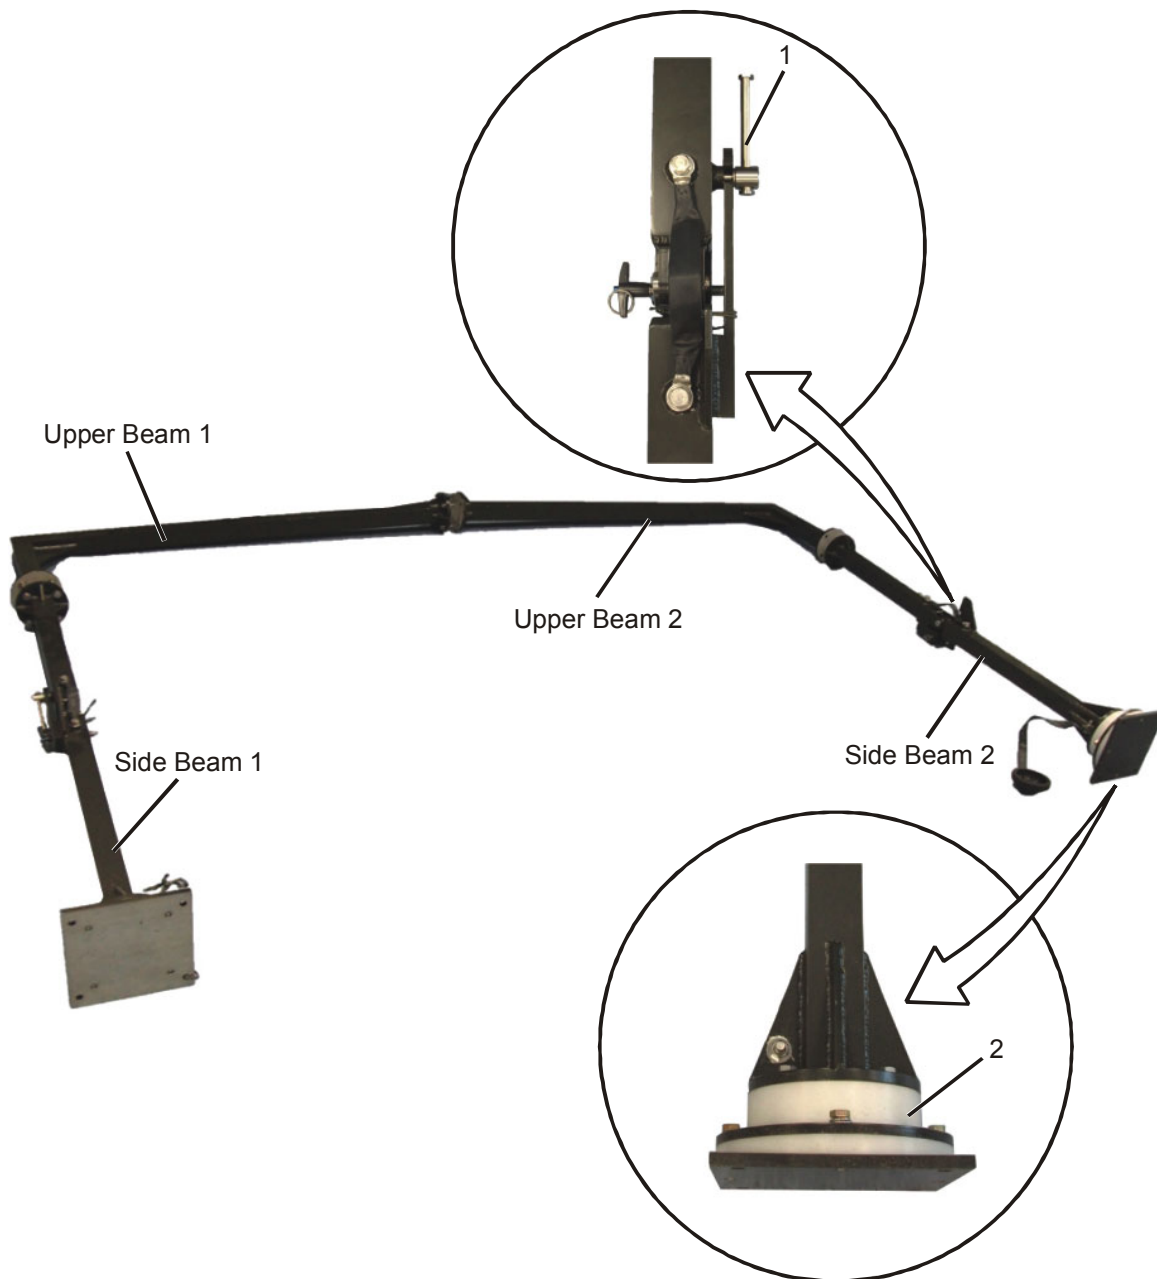
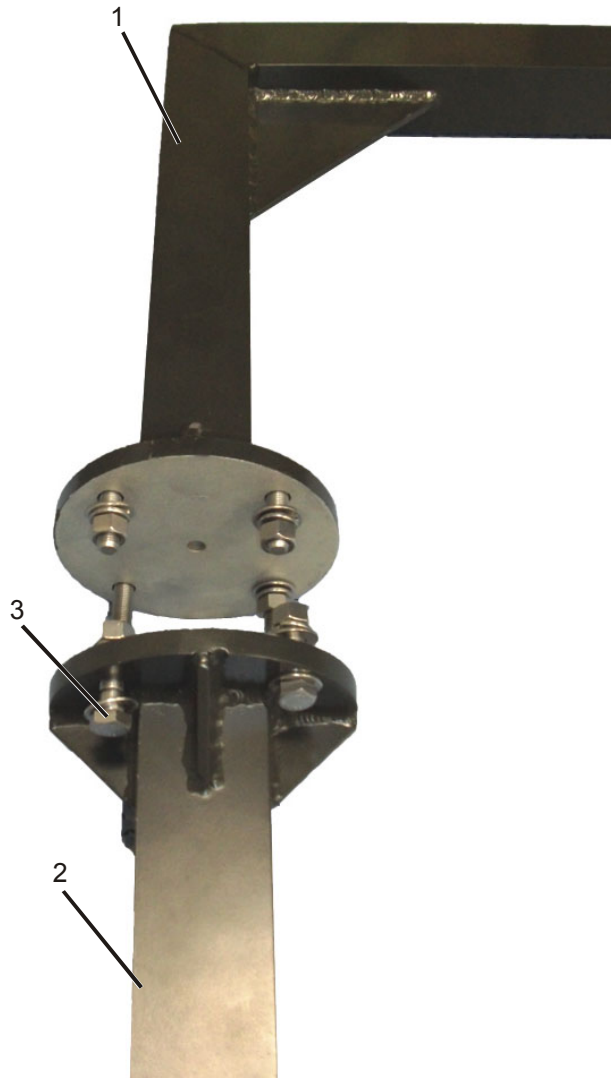

Figure 2-14. Antenna Beam deployment
Figure 2-16. Side Beam Connection
2.3.2.3 Antenna Connection (See Figure 2-14 to Figure 2-16)
- Place the four parts of the antenna on the ground (See Figure 2-14).
- Verify that the leg with the isolator (2) is placed on the correct side (located near the mounting tray).
- Verify the handle (1) located at each side beam is facing towards the outside (See Figure 2-14).
- e. Connect the left beam (2) to the upper beam (1) using four bolts, spring washers, flat washers and nuts (3) (See Figure 2-16).